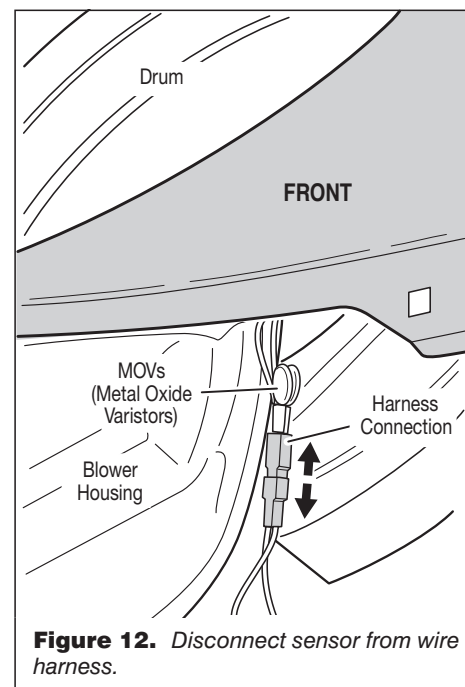

Figure 12. Disconnect sensor from wire harness.
4. Access the moisture sensor wires by removing the toe panel. See Removing the Toe Panel, page 10. Disconnect the sensor wires from the harness. See figure 12.
6. Access the moisture sensor by removing the toe panel. See Removing the Toe Panel, page 10. Disconnect the sensor from the wire harness. See figure 12.